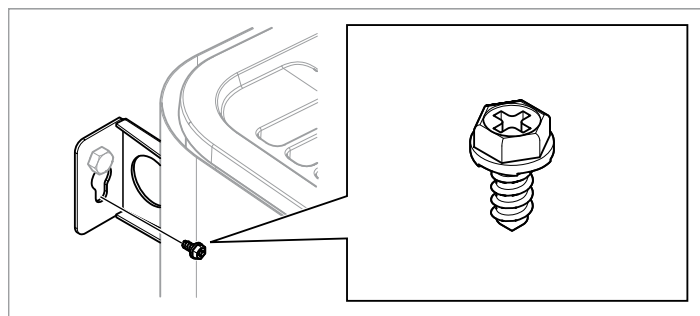

Figure 13: Lock screw for bracket
12. Lock the heater into place with the lock screw see Fig. 13.